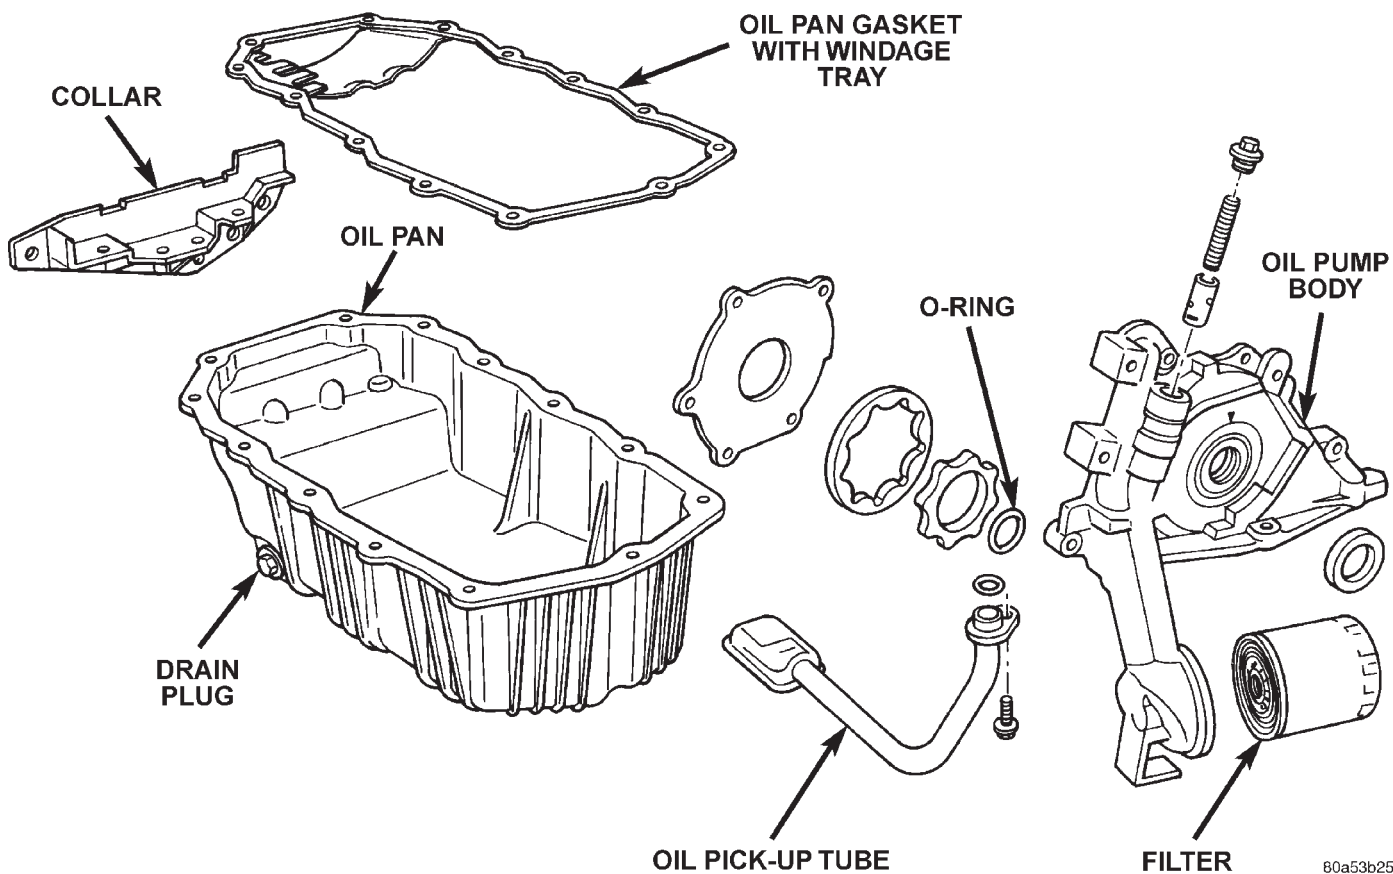

Fig. 87 Oil Pressure Relief Valve
(a) Remove the threaded plug and gasket from the oil pump (Fig. 87).
(b) Remove spring and relief valve (Fig. 87)
CAUTION: Oil pump pressure relief valve must be installed as shown in (Fig. 87) or serious damage may occur.
(4) Install relief valve, spring, gasket and cap as shown in (Fig. 87). Tighten cap to 41 N·m (30 ft. lbs.).